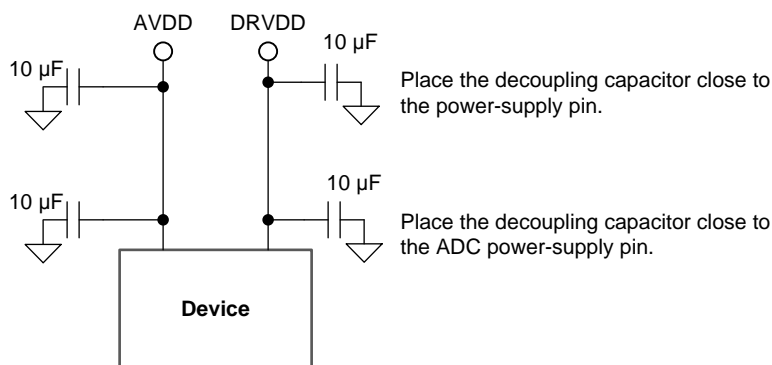

Figure 124. Recommended Placement of Power-Supply Decoupling Capacitors
- Connect decoupling capacitors directly to ground and place these capacitors close to the ADC power pins and the power-supply pins to filter high-frequency current transients directly to the ground plane, as illustrated in Figure 124.